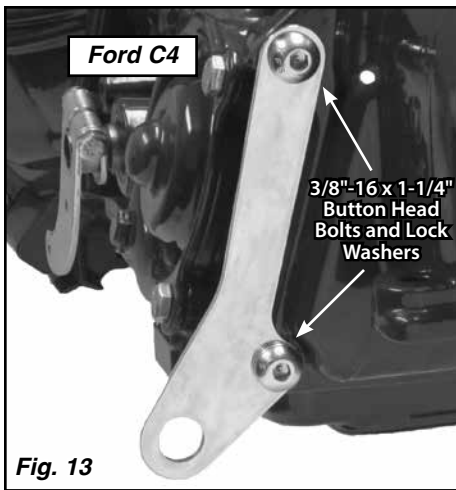

Fig. 13
Step 3, FORD TRANSMISSIONS: On a C4, remove the lower two tail housing bolts from the driver side of the transmission. Install the C4 lower cable mounting bracket onto the driver side of the tail housing, using the provided 3/8"-16 x 1-1/4" button head bolts and lock washers. **Fig. 13**
- **C6:** The rod end will be positioned on the outside of the trans arm, away from the transmission. The 1/8" rod end spacer goes in between the rod end and the trans arm. **Fig. 13 & 20**
- **AOD-4R70W-AODE:** The rod end attaches to the outside of the trans arm, away from the transmission. **Fig. 13 & 21**